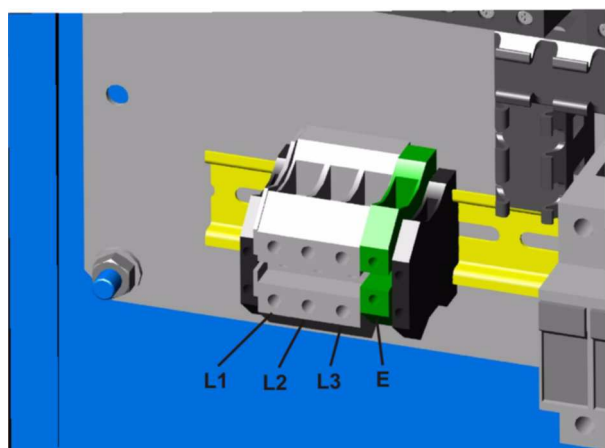

Fig. 5.2 - Electrical Connections to Starter Terminal
5.4 Electrical Installation (Fig. 5.2)